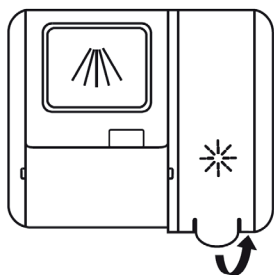

Fig.3
2. Open the rinse aid dispenser as shown in Fig..3.